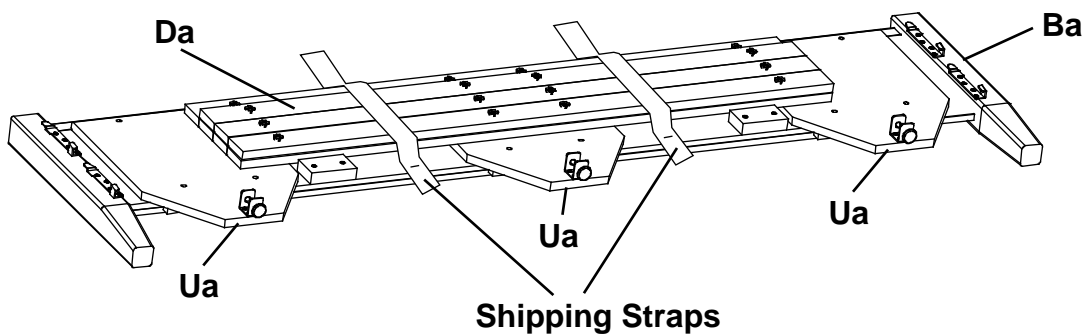

Fig. 1
1. Remove the Trestles (Da) and Assembled Feet (Ua) from the backs of the Footboard (Ba) and place them off to the side. See Figures 1 and 1a.